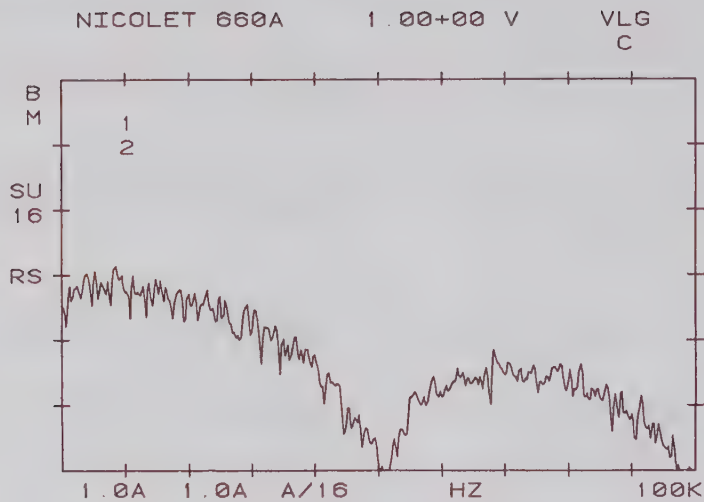

FIGURE T-5
- f. Move TEXT LINE #2 to below LINE #1: As in step c the CALCULATION CONTROL Sequence for MOVE will cause the character cursor to appear at the beginning of LINE #2, highlighting the 2 just entered. With the joystick controls, move this line to just below LINE #1. Notice that movement resolution is in half character width and height. See Figure T-5.